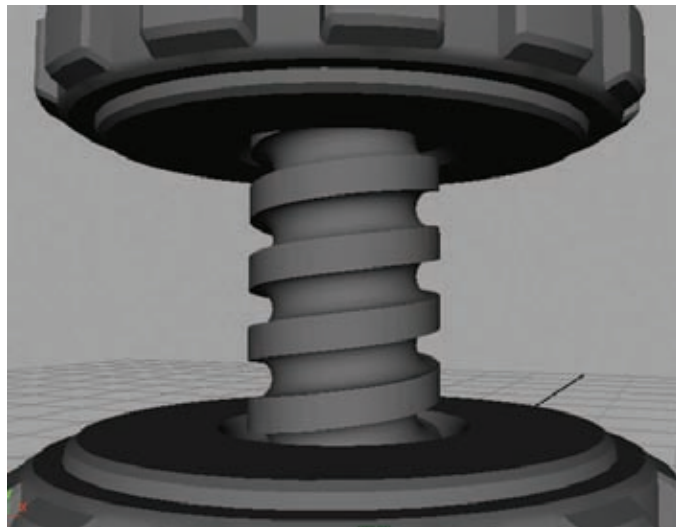

Figure 8.7
- Using a combination of Extrudes and Bevels, create an indentation into the bottom half of the pedestal for the screw shape to fit into. Do the same for the bottom of the top half of the pedestal (Figure 8.7).